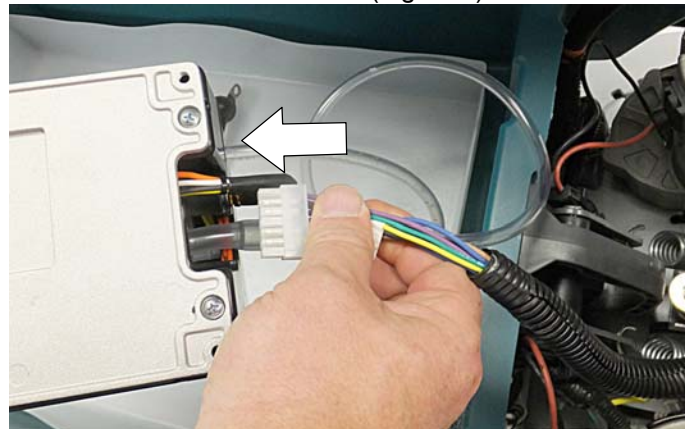

Fig. 5
4. Connect the white module harness connector to the ec-H2O module as shown (Figure 5).